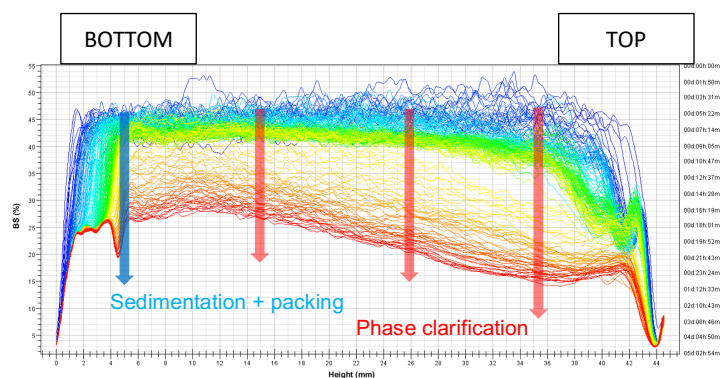

Figure1: Backscattering data from a hard-settling toner
Raw backscattering (BS) data is acquired over a 5-day period in order to monitor the changes in the sample and predict the ability of a toner formulation to settle and pack (coalesce). A typical plot is shown in Figure 1.
It is seen that an overall phase clarification is occurring at the top and middle of the samples as indicated by the red arrows in Figure 1. This shows that the BS is gradually decreasing over time as the particles are settling.